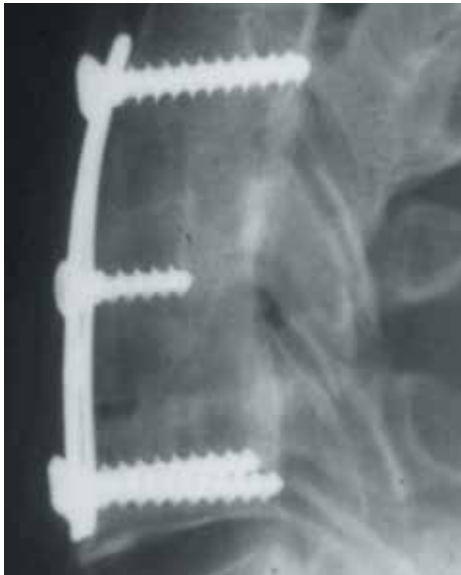
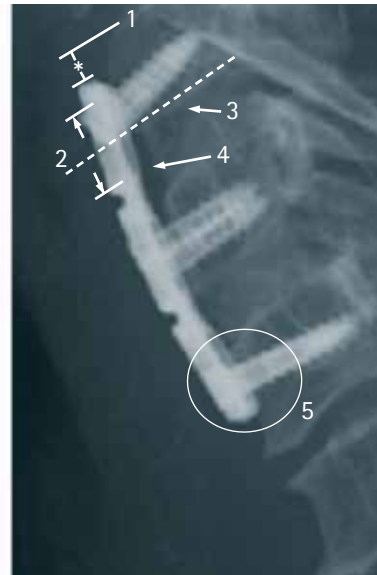

Fig. 9A: First generation Caspar plate
Fig. 9B: ABC2 plate
Lateral views of two different plating cases are shown in Fig. 9. A first generation Caspar plate was used in Fig. 9A and an ABC2 plate was used in Fig. 9B.
**A shorter length ABC2 plate was used as compared to the first generation Caspar plate (Fig. 9A) to allow for axial settling.**
**Choosing a shorter plate ensures the plate will not overlap into the adjacent interspaces as settling occurs (Fig. 9B).**
In Fig. 9B, note the screw placement in the most distal ends of the plate slots (5). The asterisk in Fig. 9B denotes the distance between the end of the plate and the vertebral body endplate (1). This distance allows for settling during graft resorption/incorporation.
As shown in Fig. 9B, the inferior end of the upper slot in the plate is marked by the longer blue arrow (4), while the graft-vertebral body interface is indicated by the shorter blue arrow (3).
**Practical Tip:** As shown in Fig. 9B, with optimal plate length selection and proper plate positioning, the upper and lower screw holes in the plate will, in most cases, overlap the bone graft by approximately 50% (2). This allows for dynamic settling.